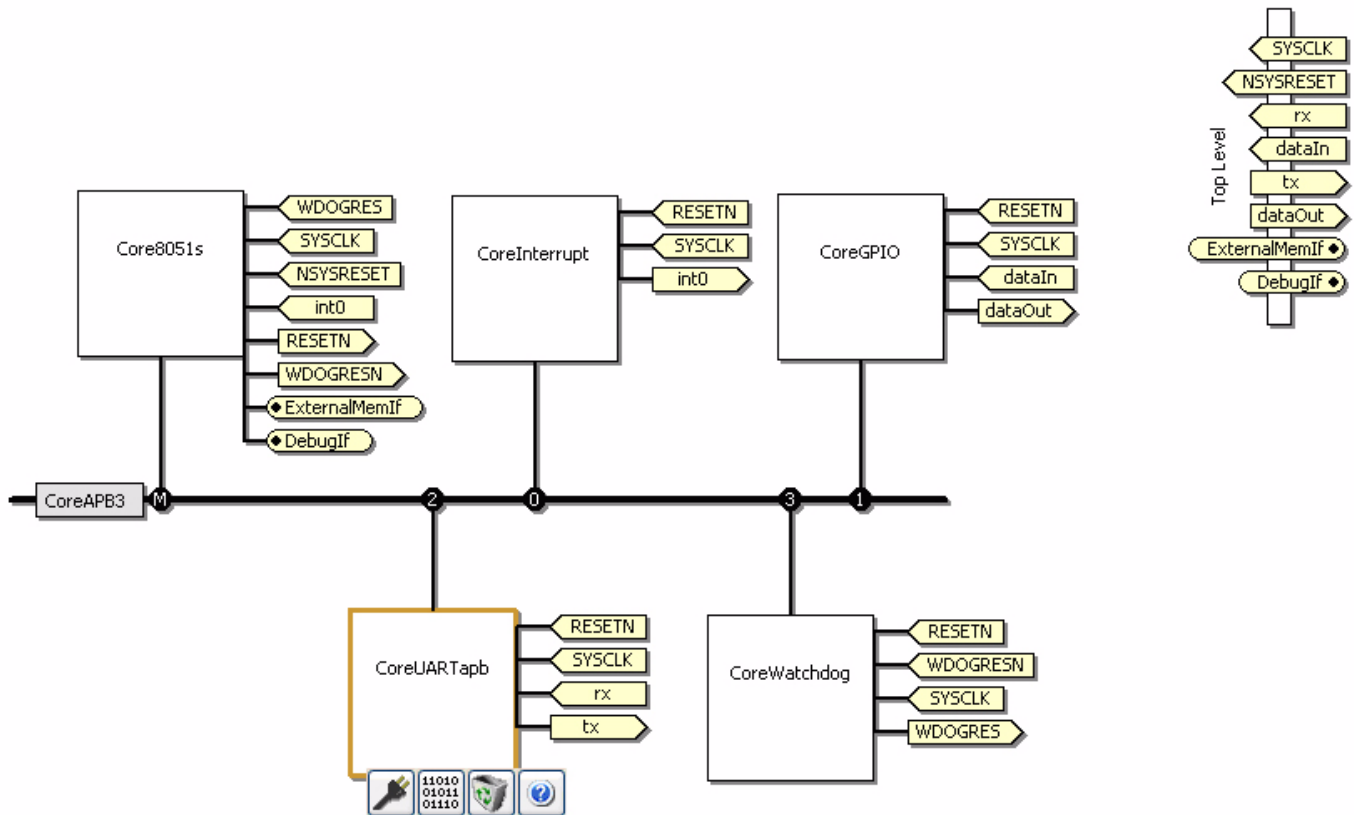

Figure 3-6. Example Finished Diagram
10. The finished diagram should resemble Figure 3-6 on page 18. The order of the components may differ. On the upper right of the Schematic window, the ports in the subsystem have been connected to the top level. These include the data ports, external memory and debug interfaces, and the transmit/receive ports throughout the subsystem.